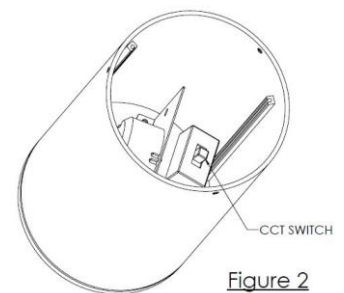

Figure 2
- For non-dimming.** Connect the white wire from the fixture to the white (N) wire from the supply power source. Connect the black wire from the fixture to the black (L) wire from the supply power source. Pink and purple wires are not to be used and must be individually capped to prevent shorting.
- For 0-10V dimming.** Connect the pink wire from the fixture to the dimmer source gray or pink wire. Connect the purple wire from the fixture to the dimmer source purple wire. Connect the white wire from the fixture to the neutral (N) wire from the dimming supply power source per dimmer wiring instructions. Connect the black wire from the fixture to the control line (L) wire from the dimmer supply power source per dimmer wiring instructions.
- CCT switch is located on backside of fixture per Figure 2. Adjust switch to desired temperature of 3000K, 3500K, or 4000K as seen below. Tuck switch gently back inside the cavity. Note: Fixture is preset to 3000K from factory.
- Install the fixture (3) by placing it over the mounting bracket (1) and re-tighten 3x set screws (4) with Allen wrench tool provided (5) to secure it. Note: save Allen wrench tool for future servicing.
- Apply a small amount of silicone (not included) per manufacturer's recommendation around the perimeter of the fixture (3) where it contacts with the surface of the wall.